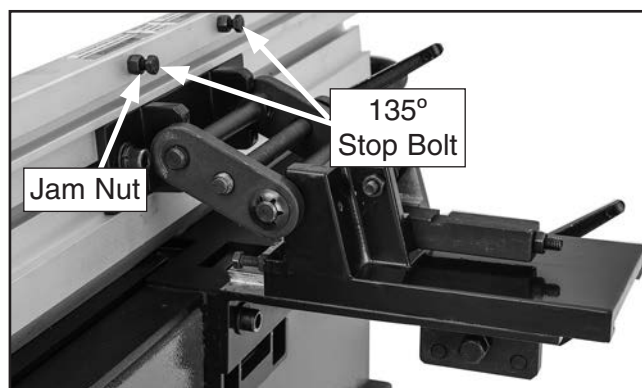

Figure 31. 135° fence stop detail.
- With outward stop bolt resting against fence bracket, adjust length of stop bolt until fence is at 45°, then tighten jam nut (see **Figure 31**).